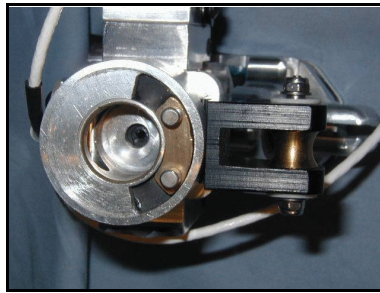

Figure 3.21 - Z-rotation Assembly
20. The Z-rotation stops are installed in the top of the Ankle Upper Joint Base (T2AKM011) on either side of the annular groove - as shown in **Figure 3.21**. The Wedge #1 is shown in the photograph for illustration purposes only. This wedge is attached to the bottom of the lower tibia load cell assembly with the two dowel pins.